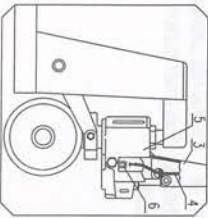
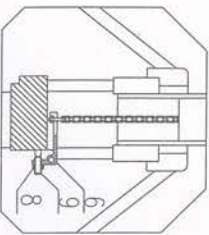

Fig. 2
Fig. 4
- 3.4 See Fig 2. Put the chain 4 of hand grip get across the middle hole of pin roll 1.
- 3.5 Take screw nut which is at the end of chain 4 and hitch the groove of lever board 6. See Fig 2 and Fig 4.